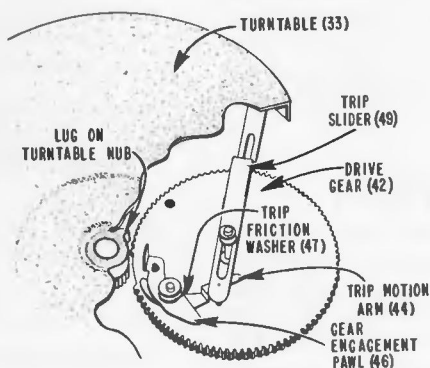

Figure 4A. Position of Drive Gear Out of Change Cycle.
This changer employs a velocity trip, consisting primarily of two parts: the trip motion arm (44), and the gear engagement pawl (46). These parts are mounted near the "dead spot" on the drive gear. See figure 4A.
This record changer uses a velocity type trip, which depends upon a rapid movement of the tone arm toward the centerpost in any area between  $2\frac{7}{8}$ " to  $\frac{7}{8}$ " from the center of the record. **This trip requires no adjustment.** However, in order for the changer to trip properly, there must be sufficient friction between the trip motion arm (44) and the gear engagement pawl (46). Friction may be increased by placing a very slight amount of a silicone lubricant on the fibre washer (45). If necessary, replace the trip friction washer (47). See Figure 4A.